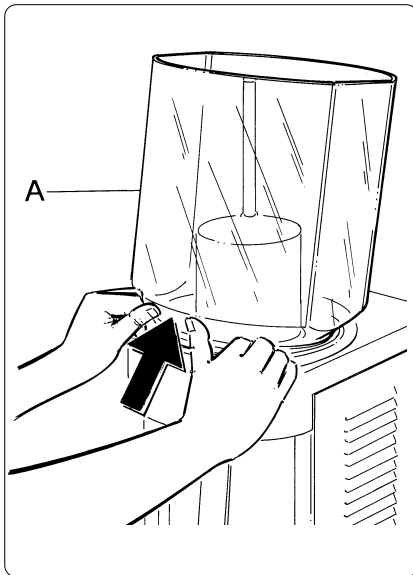

Fig. 3
- Remove the bowl (A) from its place by pushing it upward, as shown (fig. 3).